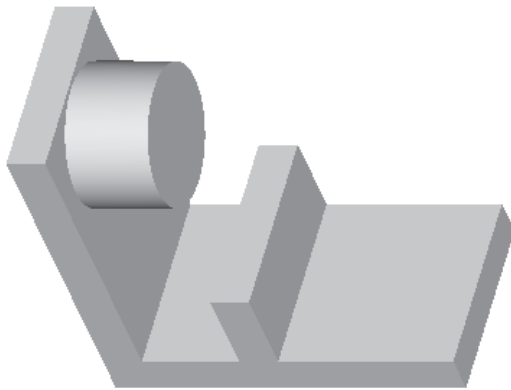

Figure 5-55 Model with the second feature
- Select the sketching plane for the cylindrical feature, draw the sketch using the sketcher tools, apply the dimensions and constraints, and then extrude the sketch to the given depth, see Figure 5-55.
7. Choose the **Preview** button from the **PROTRUSION** dialog box and then choose **OK**. The trimetric view of the model with the second feature is shown in Figure 5-55.